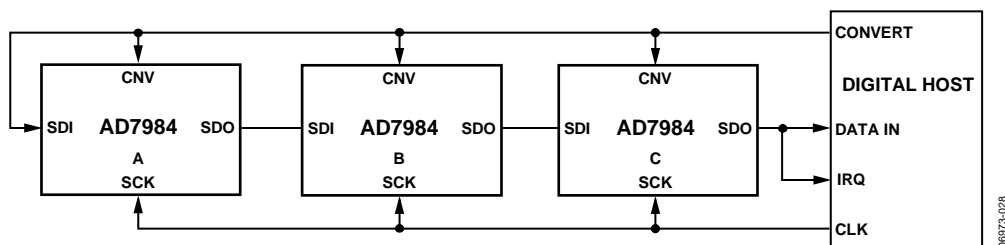
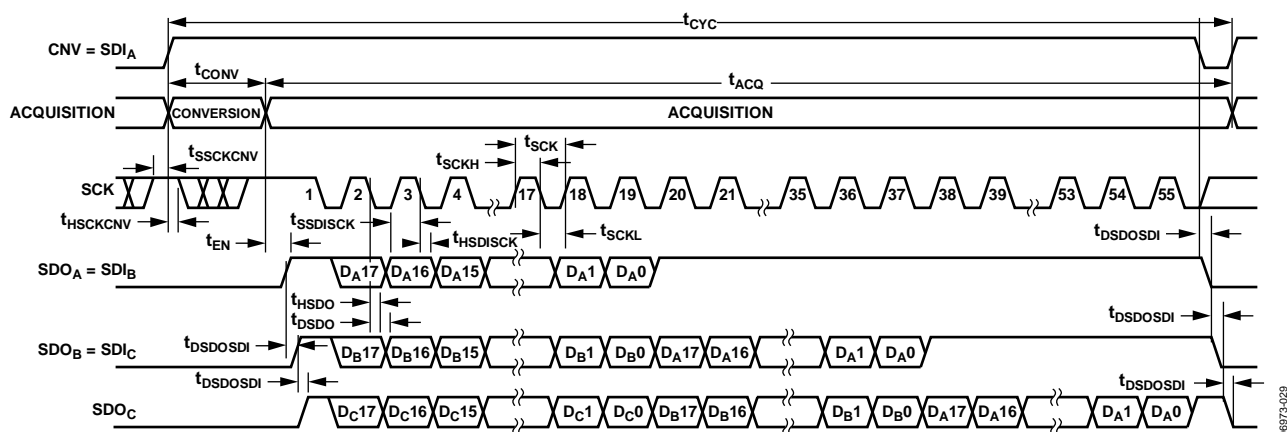

Figure 38. Chain Mode with Busy Indicator Connection Diagram
Figure 39. Chain Mode with Busy Indicator Serial Interface Timing
- In chain mode if SCK is high during the CNV rising edge (see Figure 39).
A connection diagram example using three AD7984s is shown in Figure 38, and the corresponding timing is given in Figure 39.
subsequent data readback. When all ADCs in the chain have completed their conversions, the SDO pin of the ADC closest to the digital host (see the AD7984 ADC labeled C in Figure 38) is driven high. This transition on SDO can be used as a busy indicator to trigger the data readback controlled by the digital host. The AD7984 then enters the acquisition phase and goes into standby mode. The data bits stored in the internal shift register are clocked out, MSB first, by subsequent SCK falling edges. For each ADC, SDI feeds the input of the internal shift register and is clocked by the SCK falling edge. Each ADC in the chain outputs its data MSB first, and $18 \times N + 1$ clocks are required to read back the N ADCs. Although the rising edge can be used to capture the data, a digital host using the SCK falling edge allows a faster reading rate and, consequently, more AD7984s in the chain, provided the digital host has an acceptable hold time.